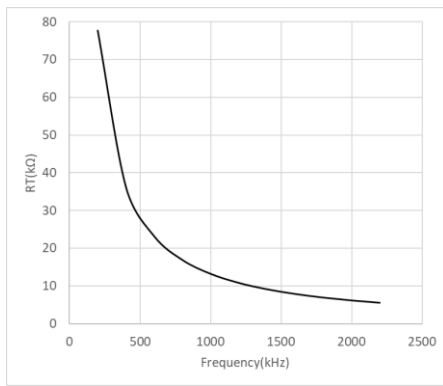

Figure 10-2 RT and Switching Frequency Relationship
A resistor from RT to AGND is needed to set target switching frequency. **Equation (2)** and **Figure 10-2** can be used to determine the resistance. If synchronization to an external clock is needed, do not apply the signal to RT pin. Instead, EN/SYNC can be used for external clock synchronization.